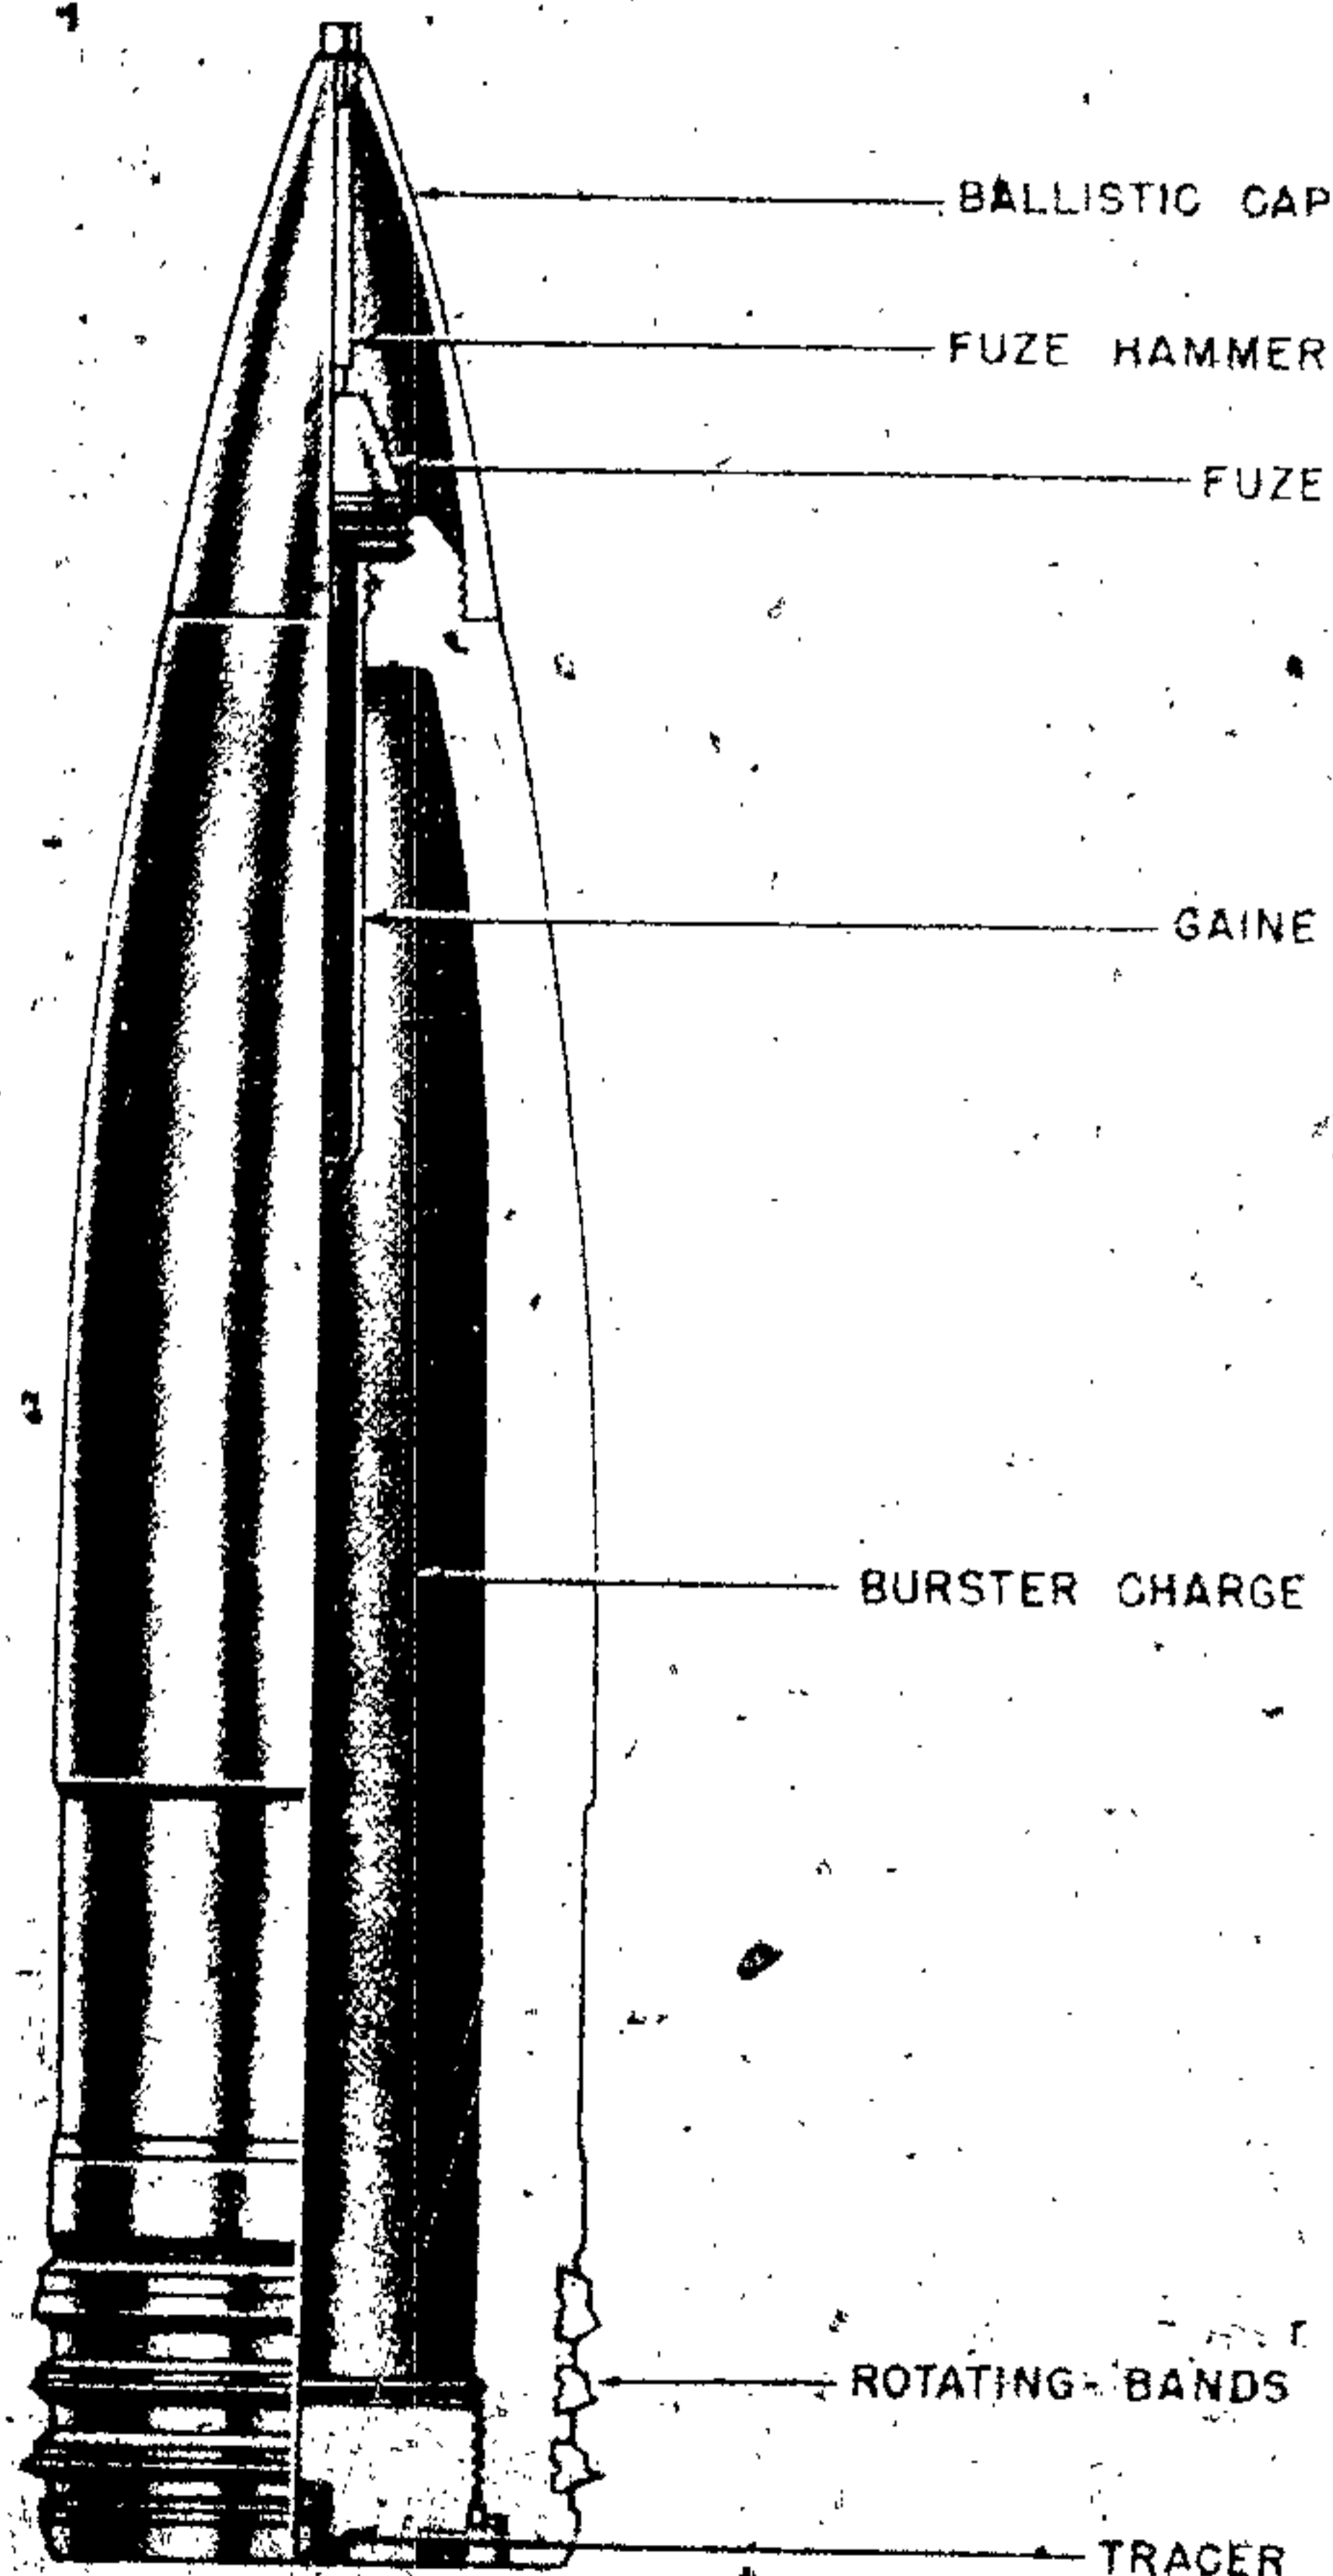

Figure 530—H. E. Projectile, 203-mm, 20.3-cm Sprgr. L/14 Kz. (Hb)
H. E. PROJECTILE FOR 203-MM GUN**GERMAN NOMENCLATURE:** 20.3-cm Sprgr. L/14. Kz. (Hb). (See fig. 530.)**WEAPONS:** German Railroad Gun: 20-cm K. (E).**PROJECTILE:**